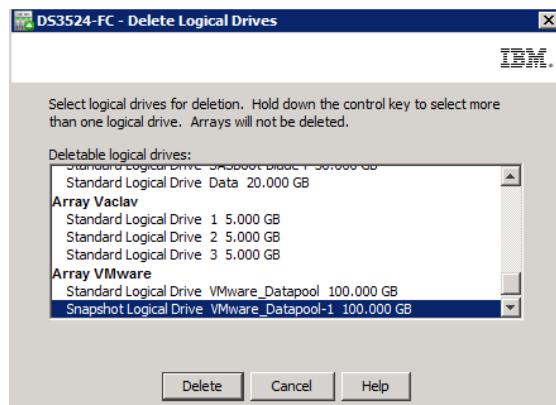

Figure 2-39 Delete FlashCopy logical drive dialog
3. The Delete FlashCopy logical drive window opens, as shown in Figure 2-39. Highlight the FlashCopy logical drives that you want to delete and click **OK**. Be careful not to delete the wrong logical drive.